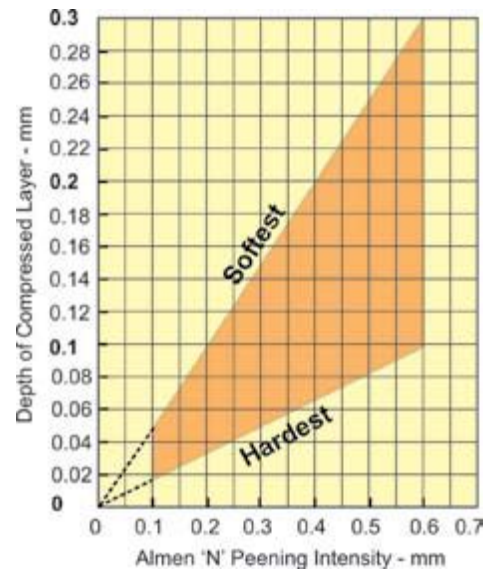

Fig.4. Guideline Diagram for Conversion of Almen 'N' intensity to Depth of Compressed Layer.
It has already been shown that: (a) for very soft materials, such as aluminum, **D** can be as much as 50% more than the Almen 'A' peening intensity and (b) for very hard materials, such as high-strength steels, **D** can be as little as half of the Almen 'A' peening intensity. Extending this to 'N' and 'C' strips allows the construction of the graphs shown as figs.4 to 6.
An approximate compressed layer depth can be read off from the appropriate figure using a measured value of Almen peening intensity. For example: in fig.4 a measured Almen peening intensity of 0.5 mm 'N' indicates that the compressed layer depth will be between 0.08 mm and 0.25 mm – depending on component hardness. If the component is known to be of average hardness the depth would be indicated as being 0.15 mm.
- (1) A specified range of 0.35-0.50 mm Almen 'N' intensity for parts with a minimum tensile strength of 220 ksi (1517 MPa) means that first we must divide the minimum 0.35 mm by 3.5 (giving 0.10 mm) and then divide that by 20 (to give the 5% allowance). This yields 0.005 mm as the maximum that can be removed by fine finishing. Using fig.4 indicates that for an Almen intensity of 0.35 mm 'N' the compressed layer depth would be about 0.058 mm. Removing 0.005 mm from a depth of 0.058 mm is about 9%.
- (3) A specified range of 0.35-0.50 mm Almen 'N' intensity means that again we divide the minimum 0.35 mm by 3.5 to give 0.10 mm. This can now be divided by 10 (to give the 10% removal allowance). Hence we are allowed to remove 0.01 mm. Using fig.4 at 0.35 MM Almen 'N' the compressed depth is about 0.10 mm – for components of average tensile strength. That again corresponds to 10%.